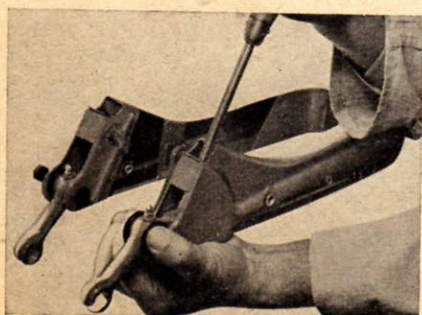

Fig. 74 Reassembling swinging link
13. Press a large screwdriver into the swinging link fork and push the link over the front lugs. (See fig. 74)